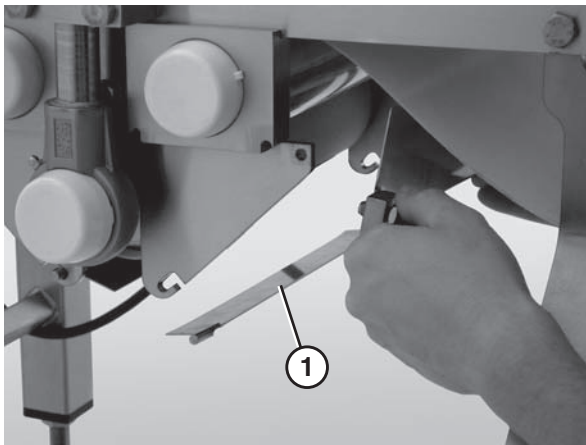

Figure 16
- Lift up on the center drive guard (**Figure 16, item 1**) and remove it.
- Reattach the center drive guards (**Figure 16, item 1**).